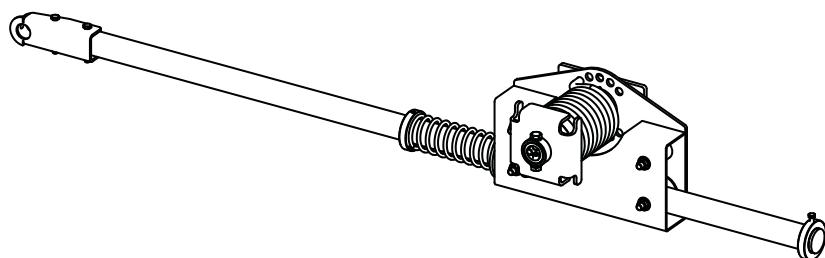

Figure 10
- 6) See Figure 10.** Slide the swing-arm assembly (2) through the leg of the rear pivot box assembly. Slide the remaining lock collar (3) onto the rear swing-arm assembly and tighten one 5/16-18 x 1" W/ nylon patch (4) thru hole in tube and tighten second bolt against tube.
3) See Figure 10. Measure and note the distance between the shaft collar face on the front roll-up adapter and the shaft bushing face on the swing-arm.